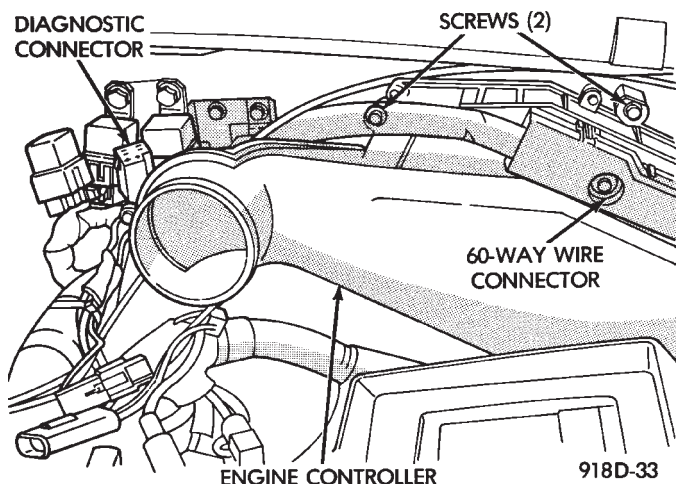
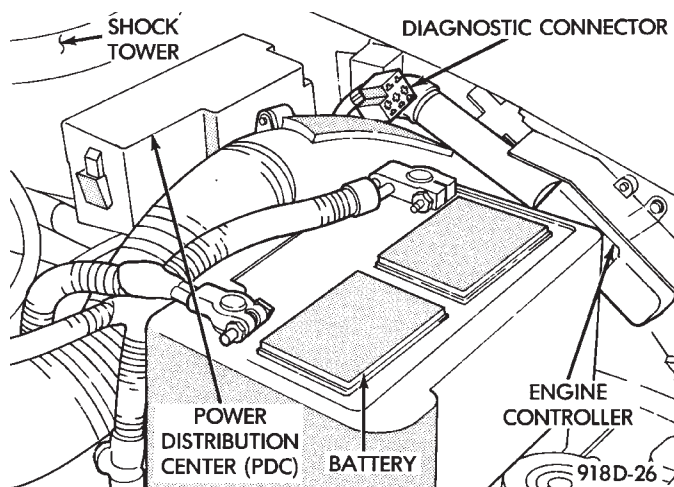

Fig. 21 Diagnostic Connector Location—AA and AP Vehicles
Fig. 22 Diagnostic Connector Location—AG and AJ Vehicles
Stored fault codes can be displayed either by cycling the ignition key On - Off - On - Off - On, or through use of the Diagnostic Readout Box II (DRB II). The DRB II connects to the diagnostic connector in the vehicle (Figure 21 or 22).
(1) Connect DRBII to the diagnostic connector located in the engine compartment (Fig. 21 or Fig. 22).
(2) Start the engine if possible, cycle the transmission selector and the A/C switch if applicable. Shut off the engine.
(3) Turn the ignition switch on, access Read Fault Screen. Record all the fault messages shown on the DRBII. Observe the check engine lamp on the instrument panel. The lamp should light for 2 seconds then go out (bulb check).